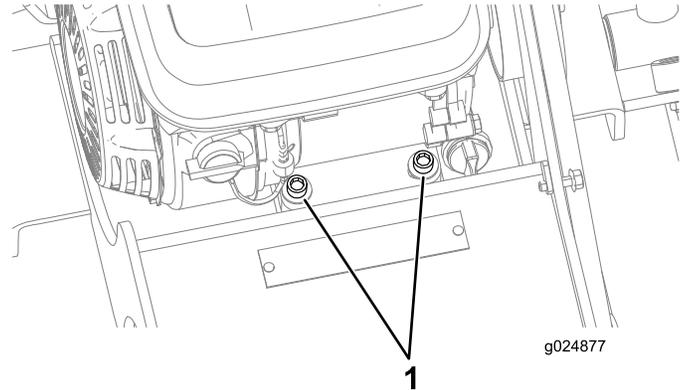

Figure 27
2. Loosen the 2 hex-socket bolts (5/16-24 x 1.75 inches) that secure the front of the engine (Figure 27).
7. Tighten the 2 hex-socket bolts (5/16-24 x 1.75 inches) that secure the front of the engine to 12.5 to 16.4 N-m (9.2 to 12.1 ft-lb) as shown in Figure 27.